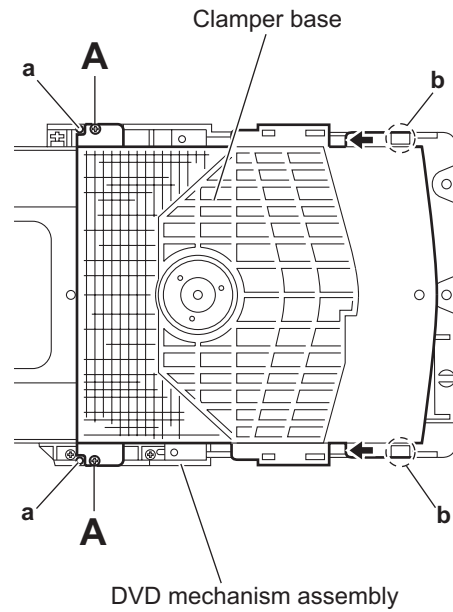

Fig.1
3.2.1 Removing the clamber base (See Fig.1)